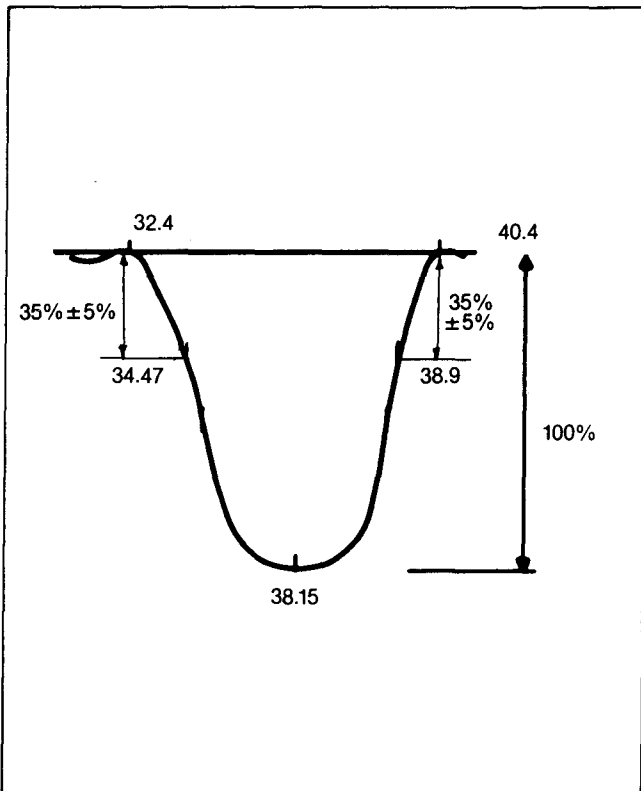

Fig. 15 Illustration for balance between 38.9 MHz and color signal
- 7) Adjust the Core (FL410) in the Tuner section shown in Fig. 15.